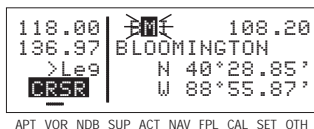

Figure 3-70
4. Move the cursor to the second character and select "M" (figure 3-70). Eureka! When you entered the "M", the KLX 135A searched its data base for the first VOR identifier beginning with the letters "BM" and found **BMI**. Many times you will only have to enter two or three characters of the waypoint identifier and the KLX 135A will furnish the rest.